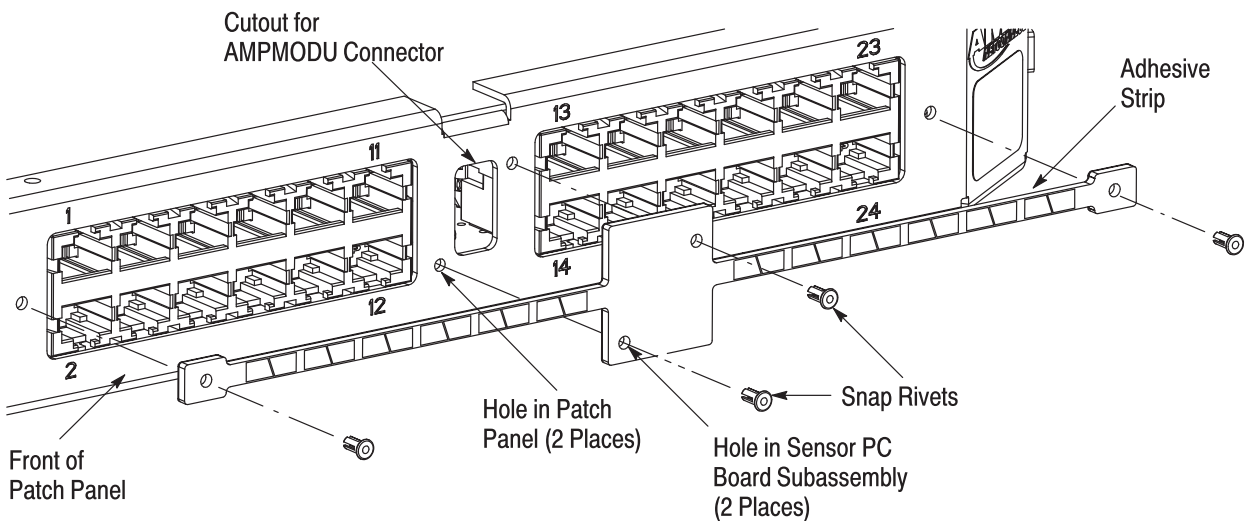

Figure 4
4. Remove the paper liner from the back of the sensor pc board subassembly (to expose the adhesive strip). Insert the AMPMODU connector through the back of the cutout in the patch panel, and plug it into the connector of the sensor pc board. See Figure 4.
5. Align the holes in the sensor pc board subassembly with the holes in the patch panel, and secure it to the patch panel using the snap rivets. See Figure 4.